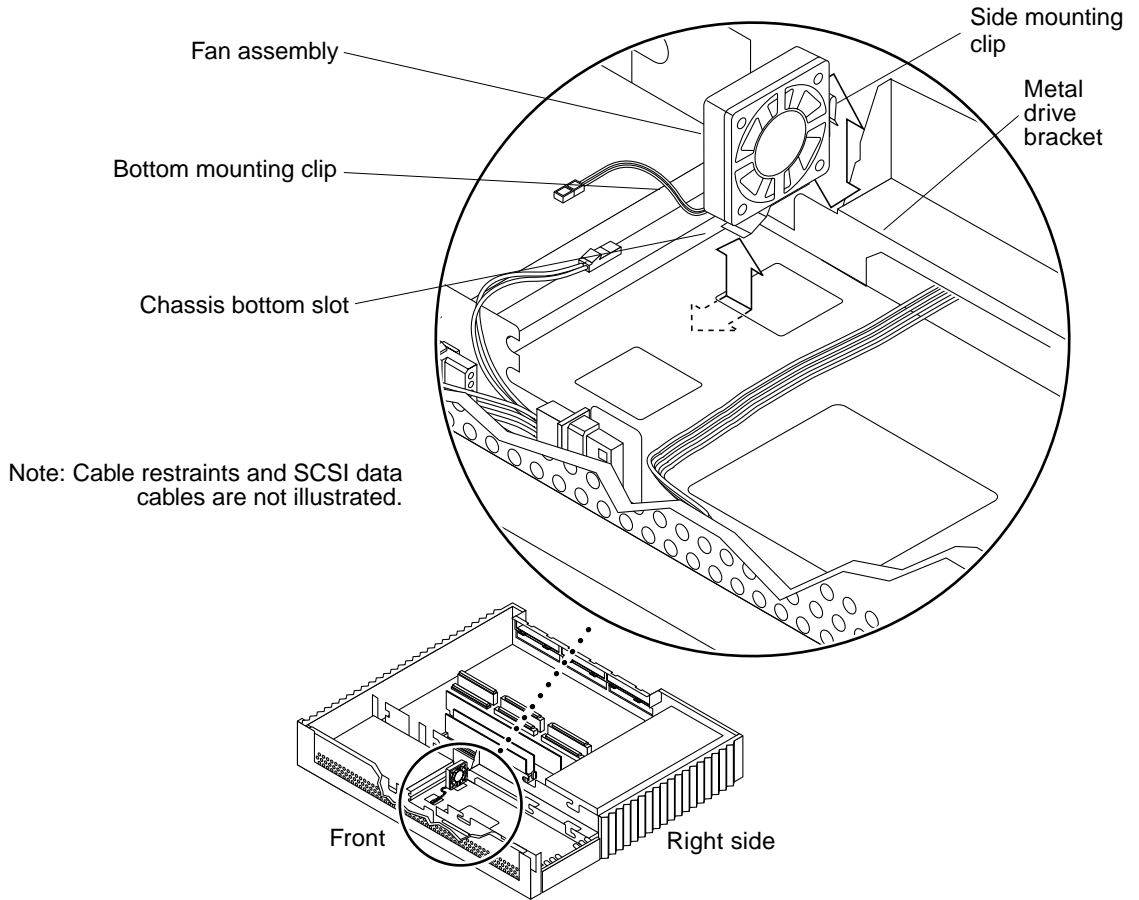

FIGURE 8-11 Removing the Fan
- c. While prying the clip up, pull the fan housing toward the center of the system to free the bottom clip from the chassis (FIGURE 8-11).